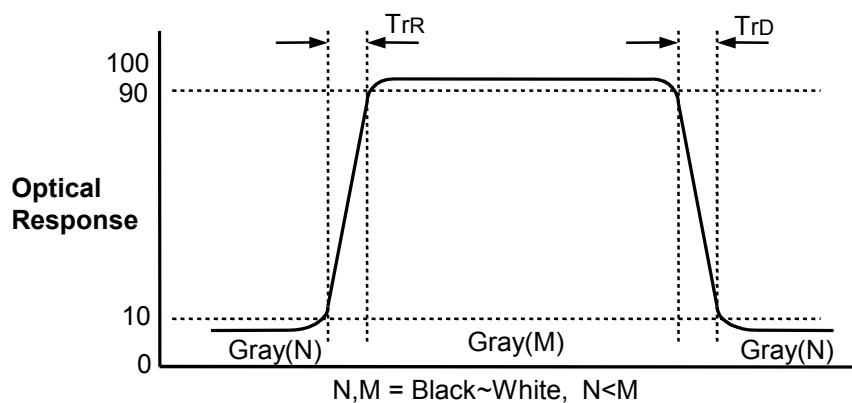

FIG. 11 Response Time
4. Response time is the time required for the display to transit from any gray to white (Rise Time, T_{R}) and from any gray to black (Decay time, T_{D}). For additional information see the FIG. 11.